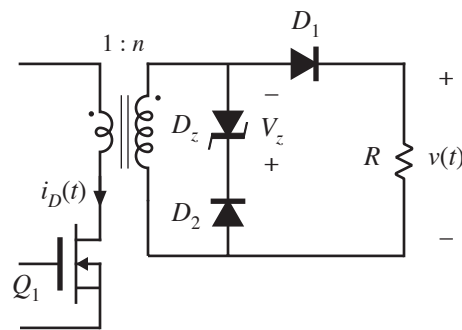

Figure 2 Transistor current sense circuit.
The object in this part is to build a current sensing circuit to observe the MOSFET drain current $i_D(t)$. A suitable circuit is illustrated in Fig. 2. Your parts kit includes a ferrite toroid, signal diodes, and zener diodes that can be used for this purpose. When this circuit operates correctly, the output voltage is proportional to the drain current according to $v(t) = i_D(t) R/n$.
- Document your current sense circuit design calculations (Fig. 2) to select values for the resistance R and secondary turns n . (5 points)
- Document your measurements of the MOSFET drain current using your current sense circuit: include your oscilloscope waveform of the voltage $v(t)$ in Fig. 2 at the full power point defined earlier. Specify the scale factor from measured voltage $v(t)$ to the actual drain current, and use this scale factor to compute the actual peak drain current. Compare this maximum current to the predicted sum of peak inductor currents at this operating point. Also find the average drain current, according to the sensed waveform $v(t)$, and compare to the sum of the converter dc input and output currents. (5 points)